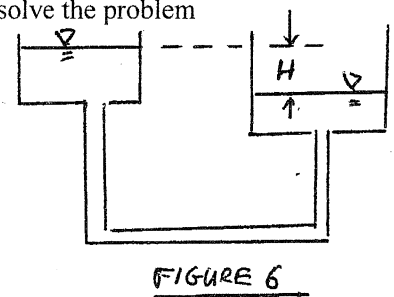

FIGURE 6
d) A pipeline leads from one overhead tank to another as shown in Figure 6. The difference in water levels of the two tanks is H while the pipeline has a length L , a diameter d and an equivalent roughness of k . Explain how you would use this information and the Moody diagram to calculate the discharge in the pipeline. Note that you have only to explain the method, not solve the problem completely.